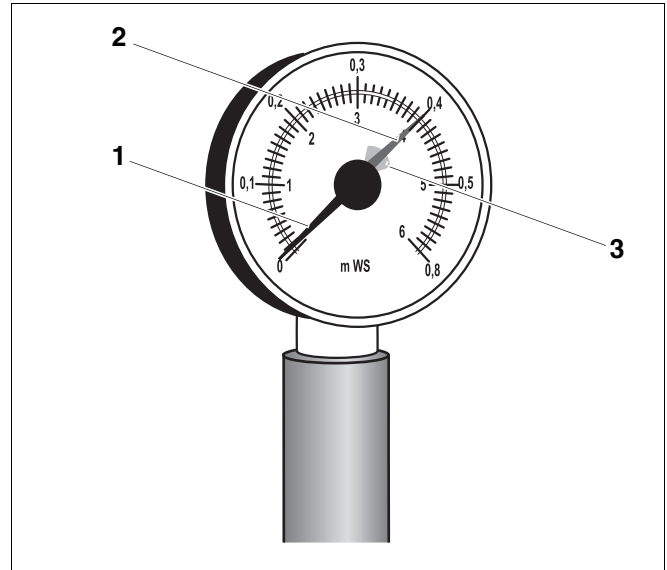

Fig. 4 Pressure gauge for open systems
On open systems (if fitted) the pressure gauge needle (Fig. 4, **item 1**) must be within the red range (Fig. 4, **item 3**).